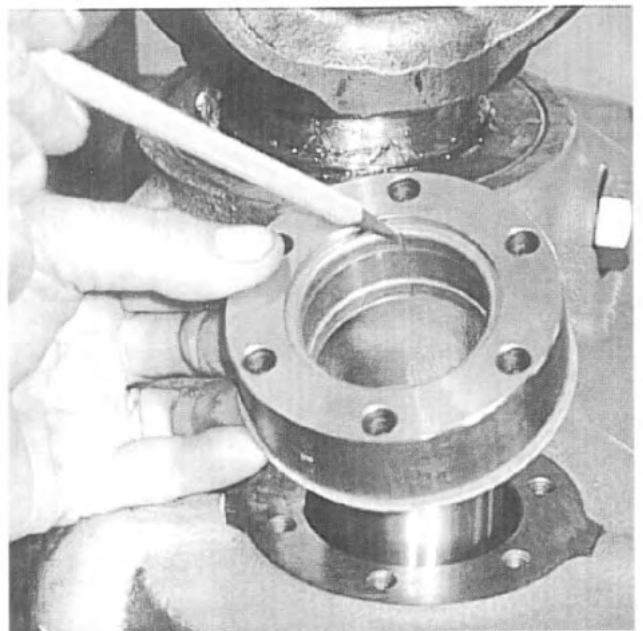

Fig. 115
7. Reinstall the spacer ring assembly, with the bushing and gasket, onto the end of the intermediate shaft. See Fig. 115.